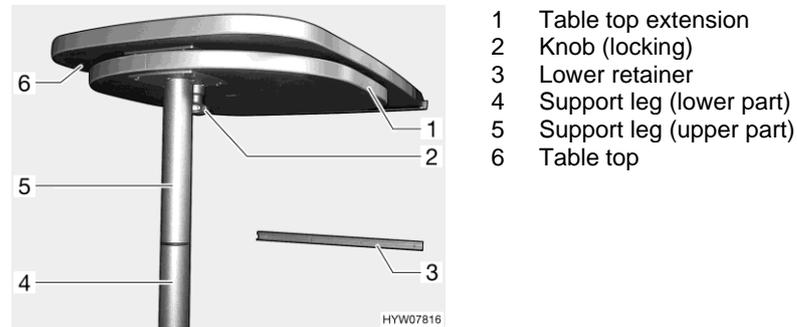

Fig. 48 Suspension table with separable support leg
- Pull the knob (Fig. 48,2) of the lock down and swing out the table top extension (Fig. 48,1).
- Swing the table top extension (Fig. 48,1) under the table top (Fig. 48,6) until the lock latches in place audibly.
- Lift the front of the table top (Fig. 48,6) by approx. 45°.
- Pull out the lower part of the support leg (Fig. 48,4) down and lay aside.
- Hook the table top at a 45° angle to the supports into the lower retainer (Fig. 48,3) and place on the floor with the upper part of the support leg (Fig. 48,5).